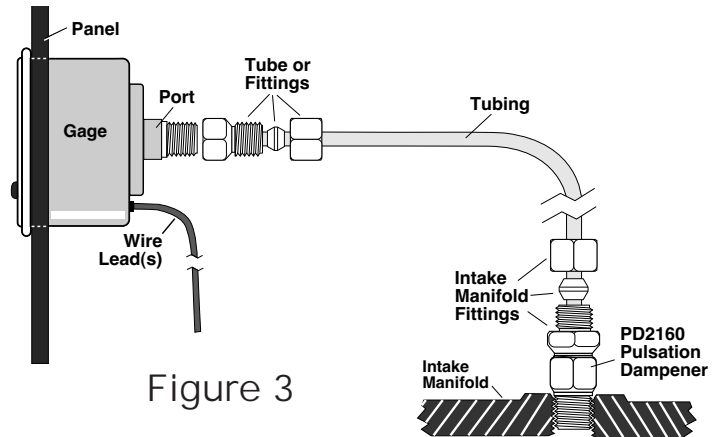

Figure 3
2. Connect suitable tubing to the 1/8-27 NPT port of the gage and to an open port in the intake manifold. Mounting kit V5179 is suggested and includes tubing and necessary fittings. The manifold fitting is 1/4 NPT. **Figure 3** shows a typical mounting using V5179 kit. A Murphy PD2160 is also recommended.